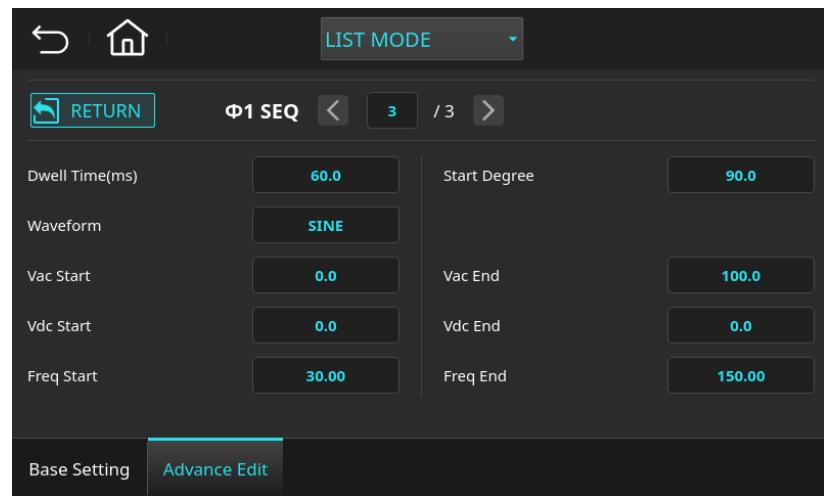

Figure 5-9 List Mode Setting Page (Example Parameters for Phase 1 – Sequence 3)
5. Select Φ1 SEQ3, tap the Edit button **EDIT**, and edit the parameters as shown in Figure 5-9.